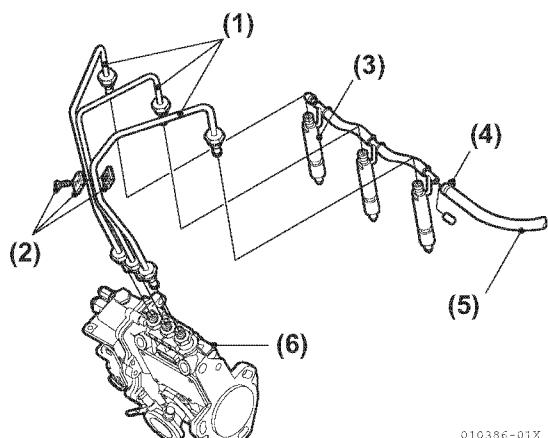
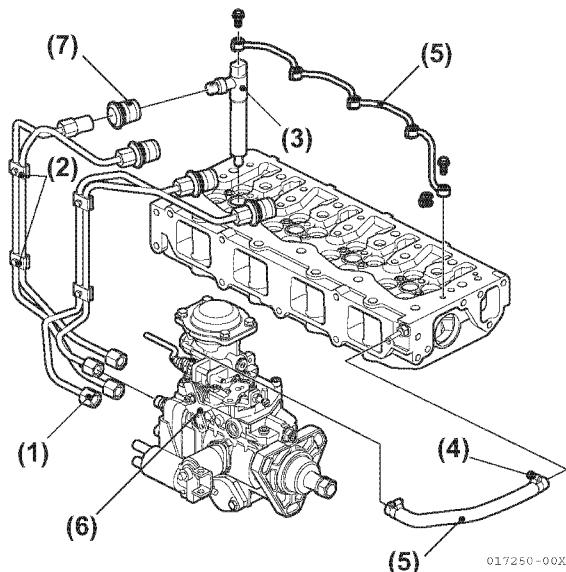

Figure 6-15
Figure 6-16
4. Loosen retainer bolts on fuel injection line(s) (**Figure 6-15, (3)**) and (**Figure 6-16, (2)**).